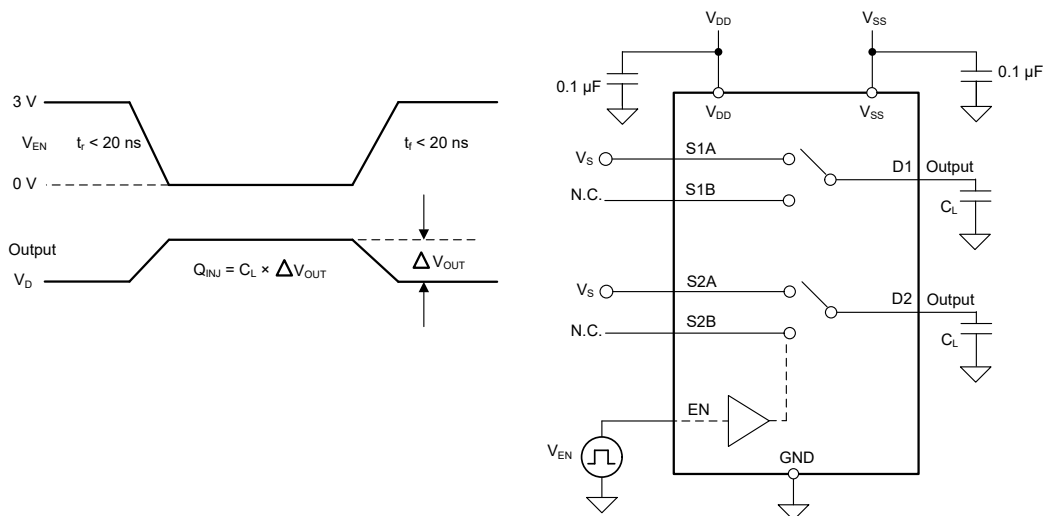

図 6-9. Charge-Injection Measurement Setup
The TMUX6236 has a transmission-gate topology. Any mismatch in capacitance between the NMOS and PMOS transistors results in a charge injected into the drain or source during the falling or rising edge of the gate signal. The amount of charge injected into the source or drain of the device is known as charge injection, and is denoted by the symbol Q_{INJ} . 図 6-9 shows the setup used to measure charge injection from source (Sx) to drain (D).